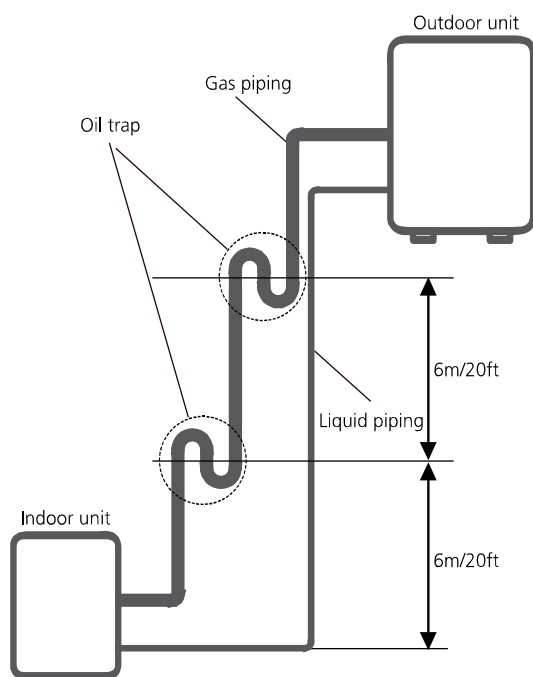

Fig. 6.2
-It is recommended that vertical suction risers not be upsized. Proper oil return to the compressor should be maintained with suction gas velocity. If velocities drop below 7.62m/s (1500fpm (feet per minute)), oil return will be decreased. An oil trap should be installed every 6m(20ft) of vertical suction line riser. (See Fig. 6.2)